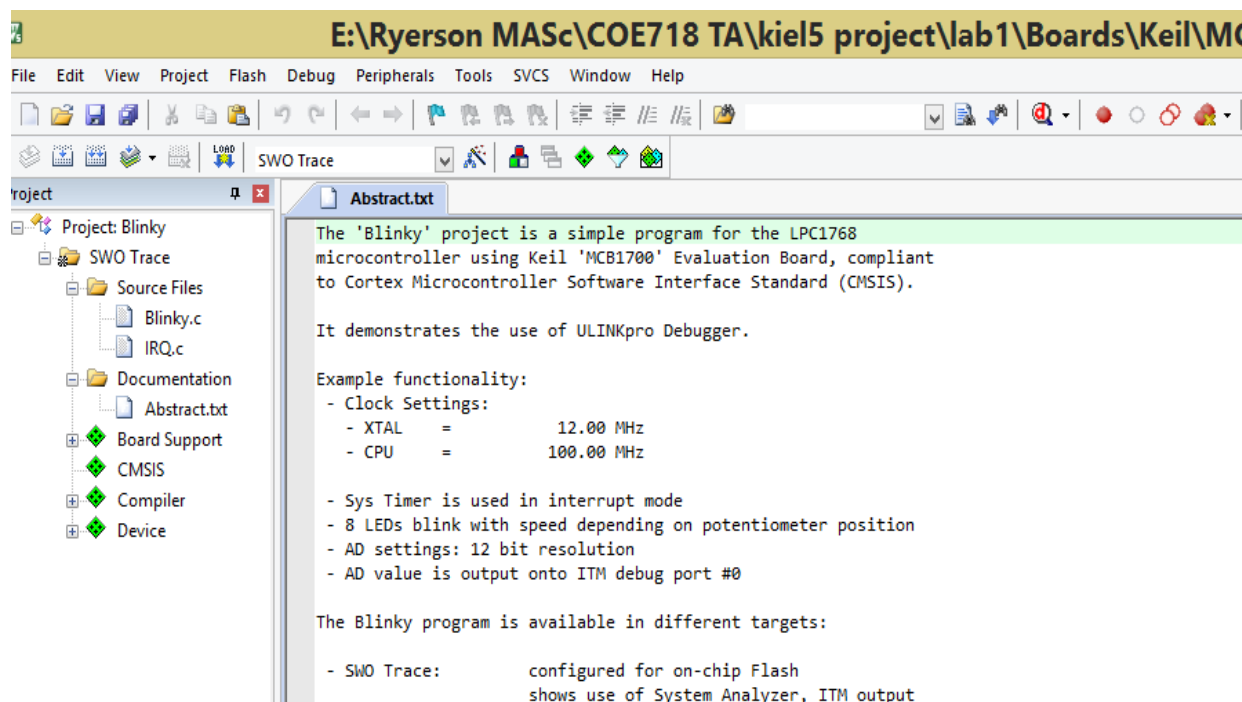

Fig. 5: Project Workspace
5. Your project workspace should now resemble as shown in Figure 5.